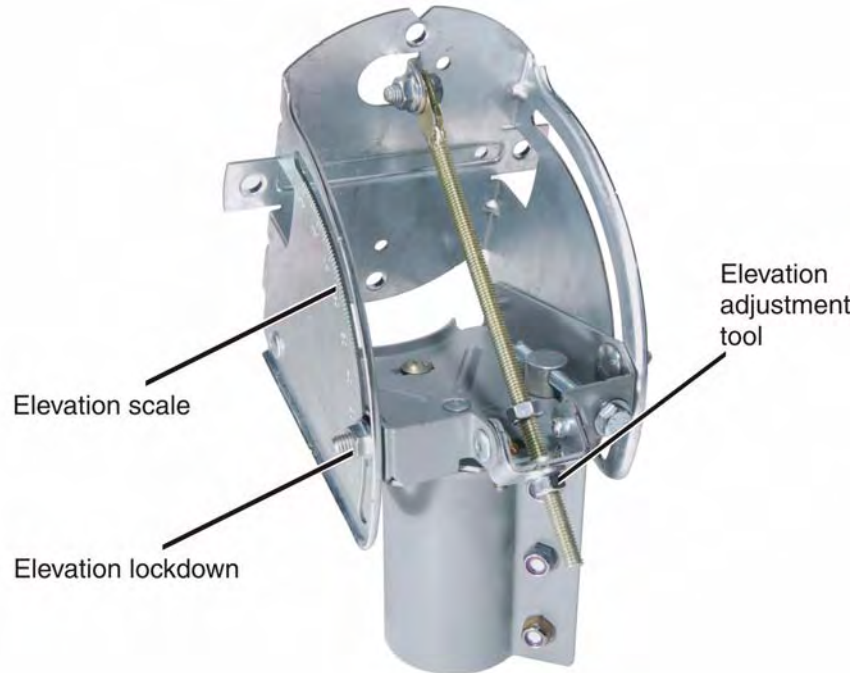

Figure 32: Elevation adjustment components
1. To begin, unlock the elevation by loosening the two 5/16-inch elevation lockdown nuts on either side of the Az/EI mount. Figure 32 shows the location of the nuts (only one nut is shown).